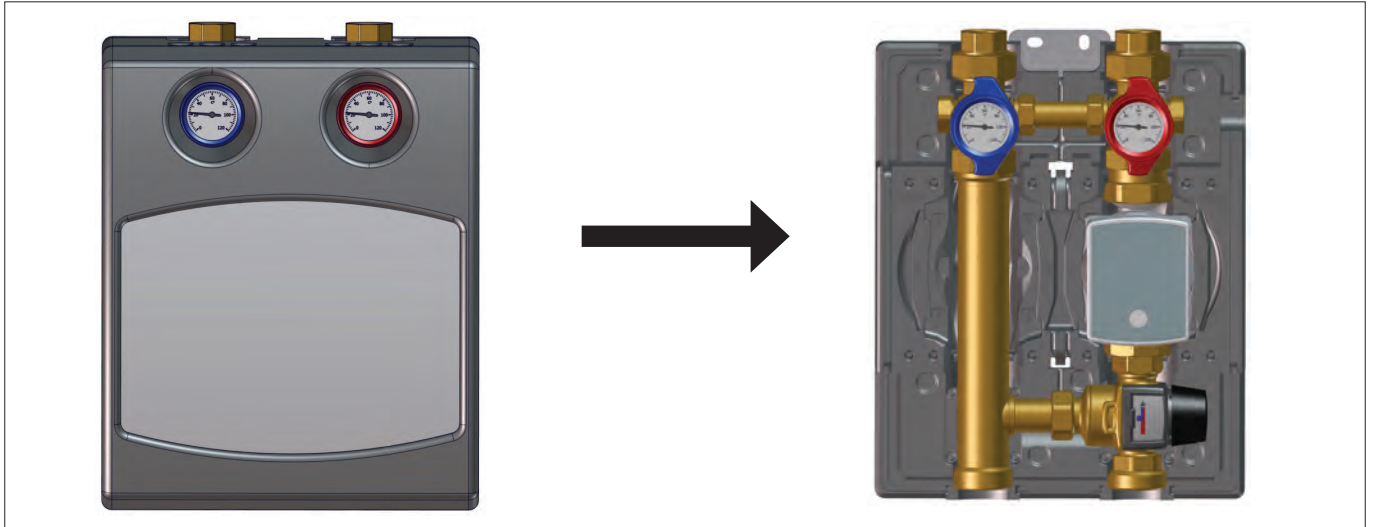

Fig. 4: Removing the front cover
- Remove the front cover on the HKF 8180 (see Fig. 4 on page 10).